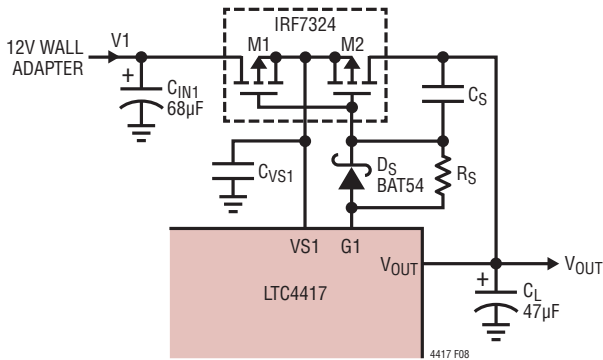

Figure 8. Slew Rate Limiting Gate Drive
Equation (13) assumes no inrush current limiting circuitry is required. If it is required, refer to Figure 8 and use the following Equation (14) for  $C_L$ .
where  $R_S$  and  $C_S$  are component values shown in Figure 8. The selection of  $R_S$  and  $C_L$  involves an iterative process. Begin by assuming  $0.79 \cdot R_S \cdot C_S = 10\mu\text{s}$  and choosing  $C_L$  using Equation (14). See the Inrush Current and Input Voltage Droop section for more details regarding inrush current limiting circuitry, and for selecting  $R_S$ .
In situations where input and output capacitances cannot be chosen to set the desired maximum input voltage droop, or the peak inrush current violates the maximum Pulsed Drain Current ( $I_{\text{DM}}$ ) of the external P-channel MOSFETs, inrush current can be limited by slew rate limiting the output voltage. The gate driver can be configured to slew rate limit the output with a resistor, capacitor and Schottky diode, as shown in Figure 8. The series resistor  $R_S$  and capacitor,  $C_S$ , slew rate limit the output, while the Schottky diode,  $D_S$ , provides a fast turn off path when G1 is pulled to VS1.